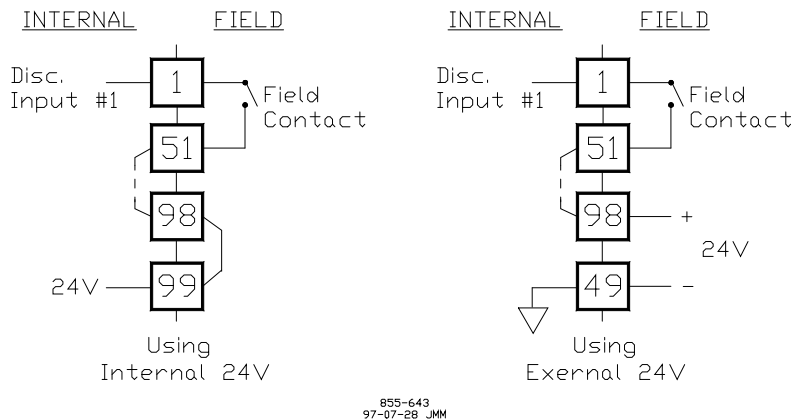

Figure 8-13—Discrete Input Interface Wiring to a 24 Vdc 48/24 Discrete FTM
Each 48/24 Discrete Combo module accepts 48 contact inputs. The 48/24 Discrete FTM may supply contact wetting voltage. Optionally, an external 18–32 Vdc power source or an external 100–150 Vdc power source can be used to source the circuit wetting voltage. If the 24 Vdc internal power source is used for contact wetting, a jumper is required between FTM terminals 98 and 99. If an external power source is used for contact wetting, the external source common must be connected to the FTM’s discrete input common, terminal 49. If 125 Vdc contact inputs are needed, the High Voltage (125 Vdc) FTM must be used. The FTM provides a common cage-clamp terminal connection for customer field wiring. Figures 8-13 and 8-14 illustrate different discrete input wiring configurations based on the input voltage.
- 24 Vdc FTM only—If the internal 24 Vdc is used, a jumper must be added to tie the internal 24 Vdc to the bussed power terminal blocks (see Figure 8-13).
- 24 Vdc FTM only—If an external 24 Vdc is used, the common for the external 24 Vdc must be tied to the discrete input common (see Figure 8-13). Power for contacts must be supplied by the control's power supplies, or the external power supply outputs must be rated to Class II at 30 Vdc or less and outputs must be fused with appropriately sized fuses (a maximum current rating of  $100 \div V$ , where V is the supply's rated voltage or 5 A, whichever is less).